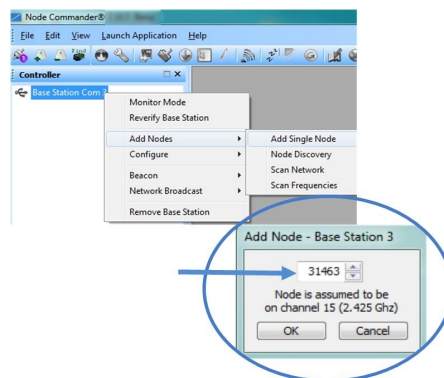

Figure 38 - Adding a Node by Address
1. To add a node by address, right-click on the gateway name in the Controller window, and select Add Node > Add Single Node (*Figure 38 - Adding a Node by Address*).